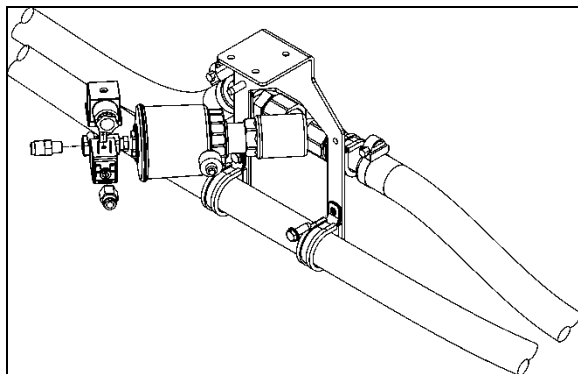

FIGURE 66: DRIVER'S UNIT HOT WATER PNEUMATIC VALVE ASSEMBLY
The flow of hot water to the driver's unit heater core is controlled by a normally-open (NO) pneumatic valve like. The valve, located at the ceiling of the spare wheel compartment (Figure 66), is designed so that the pilot solenoid valve, which is part of the assembly, opens and closes a port which directs air pressure to the actuator casing, thereby opening or closing the valve.
2. Locate the normally open hot water pneumatic valve on the ceiling of the spare wheel compartment (Figure 66), disconnect its wiring connector, and then connect a 24-volt external power source, using jumper cables, to close valve.